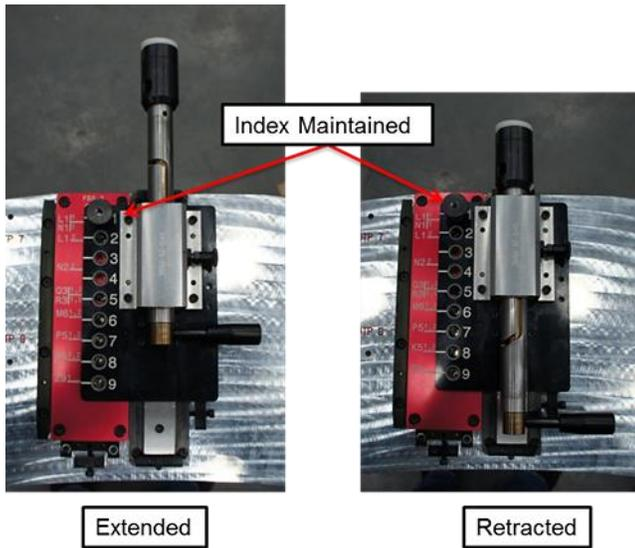

Figure 9: Intermediate Slider Index
- **All Surface Indexes have a Retract Feature:** To allow for safer movement during re-indexing, all Surface Indexes on intermediate form boards have a retracting feature that allows them to retract (120mm) (~5in) from their index location, while maintaining a repeatable position. See Figure 9: Intermediate Slider Index